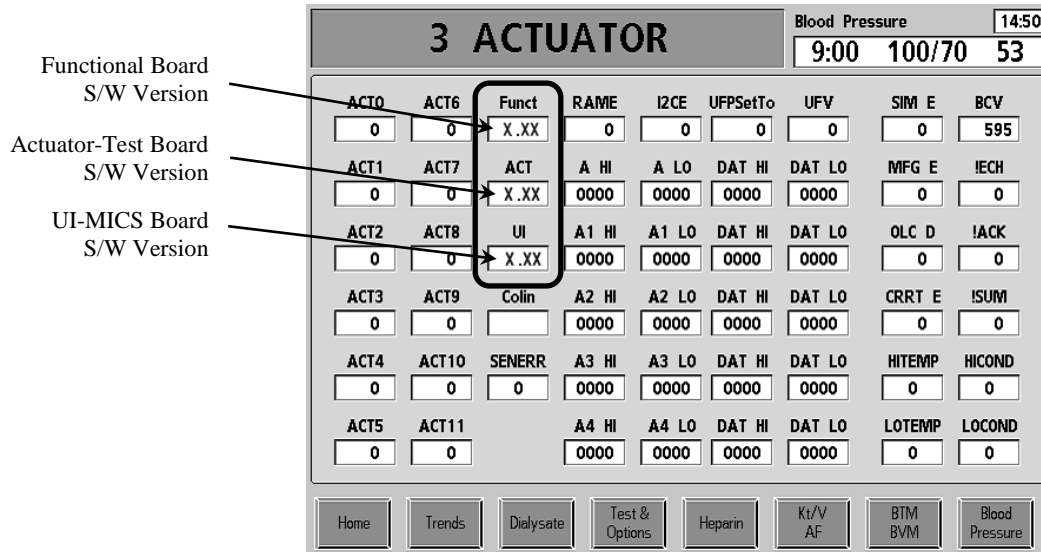

Figure 1
25. Use the up or down arrow keys to go to debug screen 3 ACTUATOR and verify that the new software versions are correct. See Figure 1 for software version locations on the debug screen.